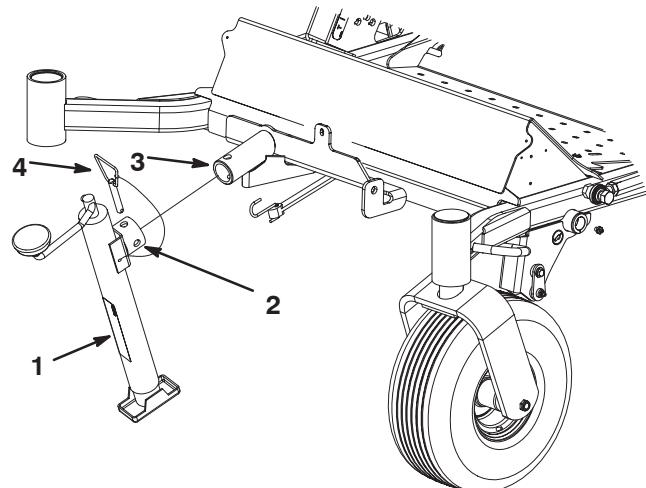

Figure 2
3. Insert the jack tube onto the jack mount tube, align the mounting holes and secure with the jack pin (Fig. 2).